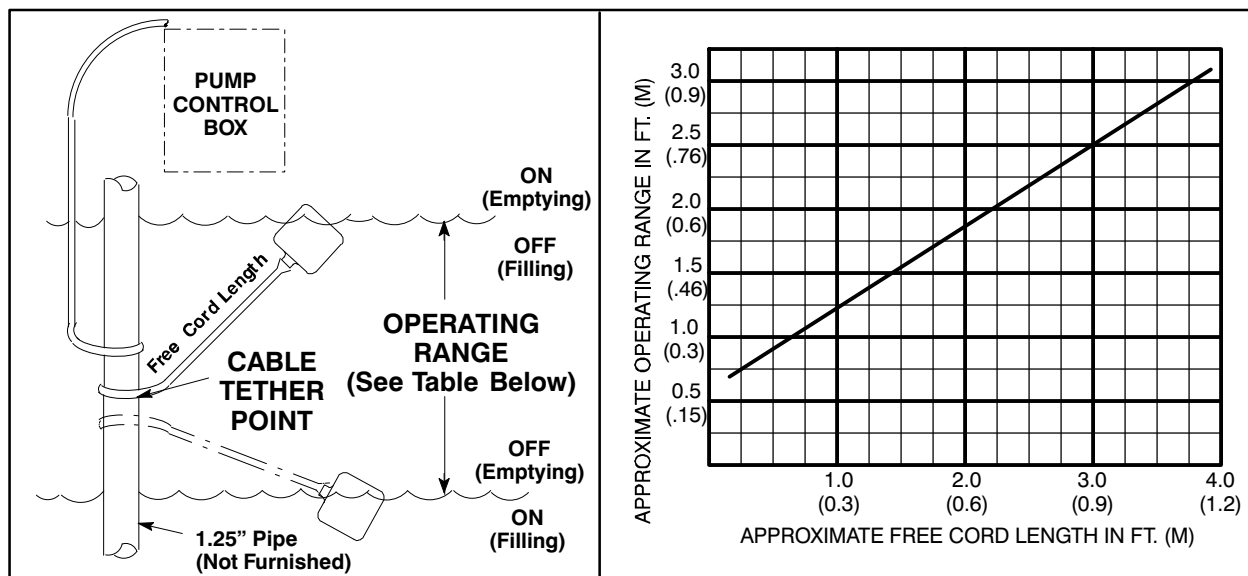

Figure 4. Float Switch Data
- d. Refer to Figure 4 for additional float switch data.